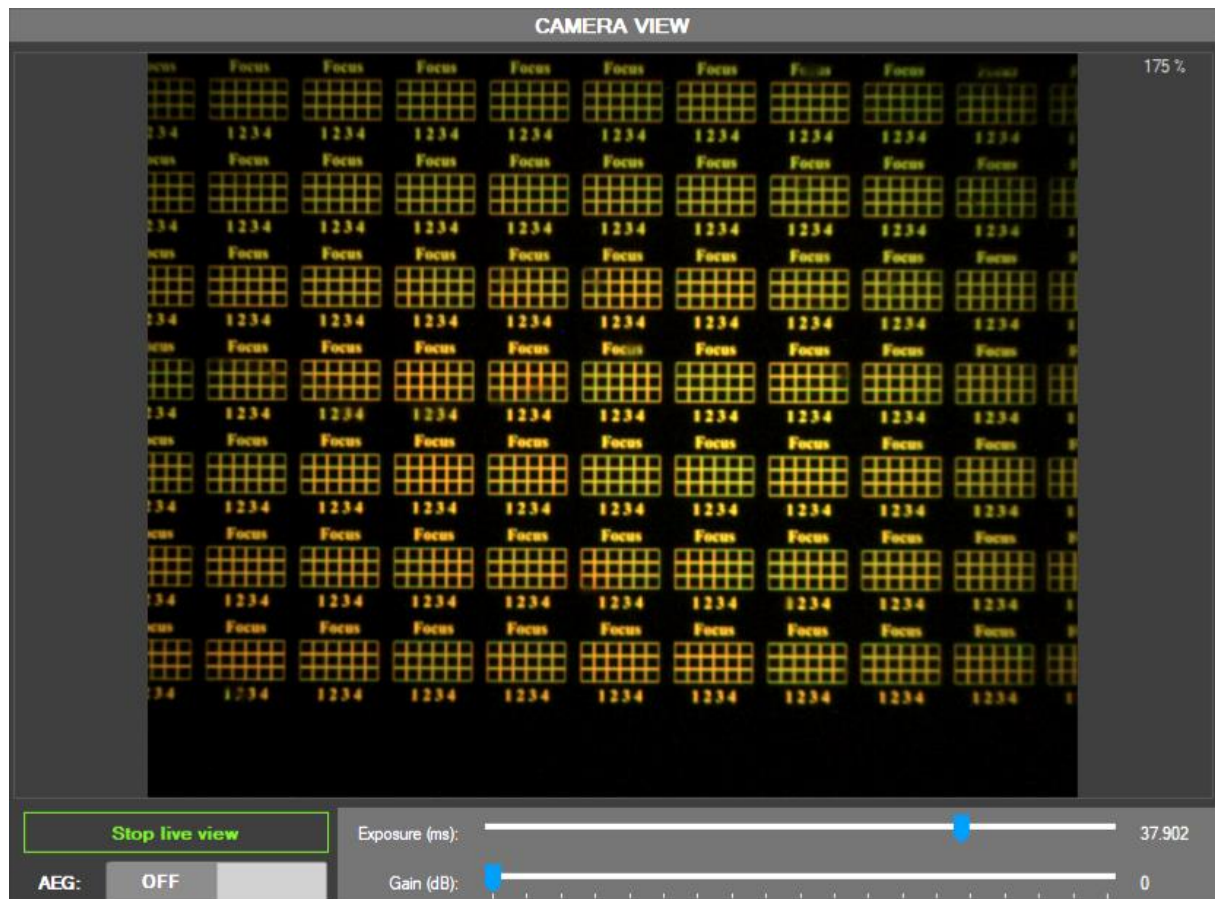

Figure 23 – Camera view panel during focus setting
- Click on the **FOCUS MODE** button in the **EXPOSURE** panel (Figure 11). The camera live view will start automatically in the **CAMERA VIEW** panel (Figure 23).
- Click on the **MICROSCOPE MODE** button in the **EXPOSURE** panel (Figure 11). The camera live view will start automatically in the **CAMERA VIEW** panel (Figure 23).